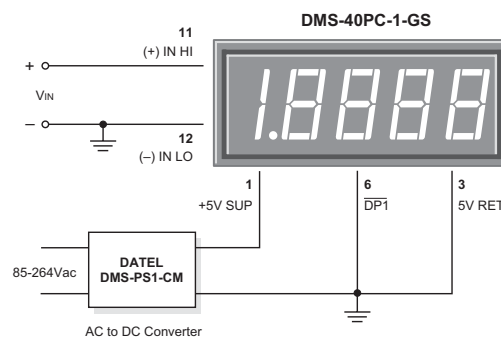

Figure 2. Single-Ended Input Configuration
1. **Single-Ended Input Configurations:** The DMS-40PC can measure single-ended signals with either positive or negative polarities. True single-ended inputs always have one of their two terminals at the same potential as the DMS-40PC's 5V RETURN (pin 3). Single-ended inputs are usually derived from power supplies that have a common ground with the meter's +5V supply. Figure 2 shows the recommended connections to be used with this type of input. Pin 12, (–) INPUT LO, is shown directly tied to ground. This connection to ground must be a separate wire or pc-board trace originating at V_{IN} 's negative terminal. This hook-up will normally eliminate display instabilities and errors caused by ground-loop currents which can occur if (–) INPUT LO is tied to ground at, or near, pin 3.